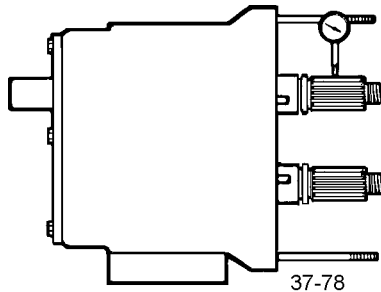

Figure 29 - Check bearings
- Check the bearings with a dial indicator for shaft radial play (Figure 29). If the deflection is equal to or greater than the rotor-to-body diametrical clearance ("Checking for Proper Clearance" on page 41), replace the bearings.